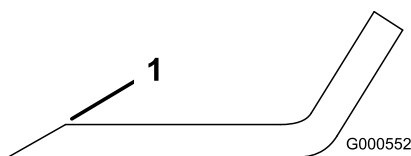

Figure 34
1. Use a file to sharpen the cutting edge at both ends of the blade (Figure 34).
Note: If the blade is not balanced, file some metal off the end of the sail area only (Figure 34).